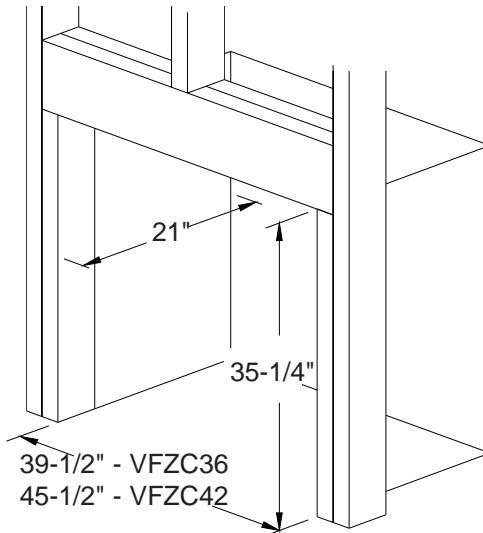
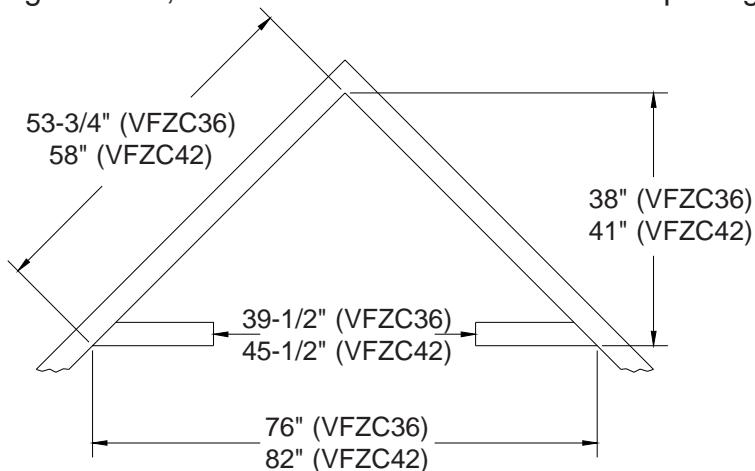

Figure 11 - Rough Opening for Installing in Wall
Figure 12 - Rough Opening for Installing in Corner.
- Frame in rough opening. Use dimensions shown in *Figure 11* for rough opening.
If installing in a corner, use the dimensions shown in *Figure 12* below for the rough opening. The height is 35", which is the same as the wall opening in *Figure 11*, page 13.